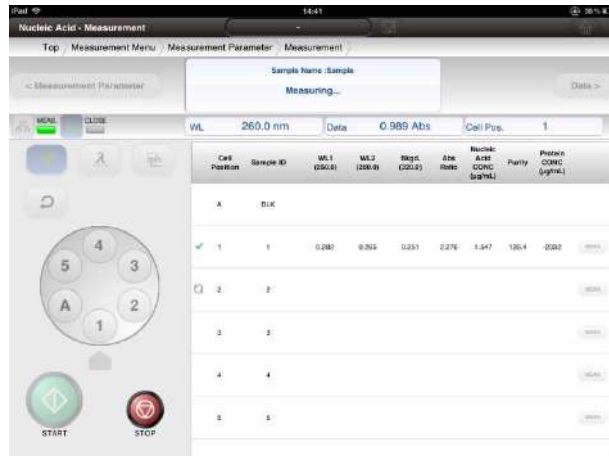

Fig. 4-60 Window Showing Ongoing Sample Measurement
- (3) The windows below Fig. 4-60, window for ongoing sample measurement, will be shown during measurement.